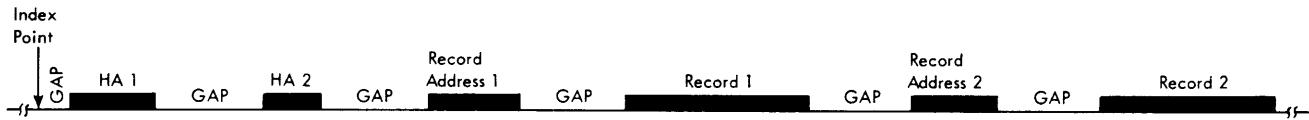

Figure 7. Disk Track Address and Data Arrangement
A data track and the data to be written or read from a track are identified by a home address 1 (HA1), a home address 2 (HA2), and as many record addresses (RA) as there are record areas to be established on the data track (Figure 7).
Each record area established for a data track is preceded by a record address (**RA**) (Figure 7). The record address consists of six or more characters, which may be numeric, alphabetic, or special characters. They are assigned and written by the user to fit any convenient addressing scheme. A record address need not have any relationship to the home address of the track where it is written. When the record address (six characters) is verified, only the numeric portion (four low order bits) of the first four characters is verified. The low-order six bits of the last two characters are
Note: The index point (Figure 7) is used as a machine reference point on the track; that is, it indicates both the beginning and the end of the track. The index is used by the 7631 in file-control/disk-storage synchronizing functions. The index is not normally used in programming operations.